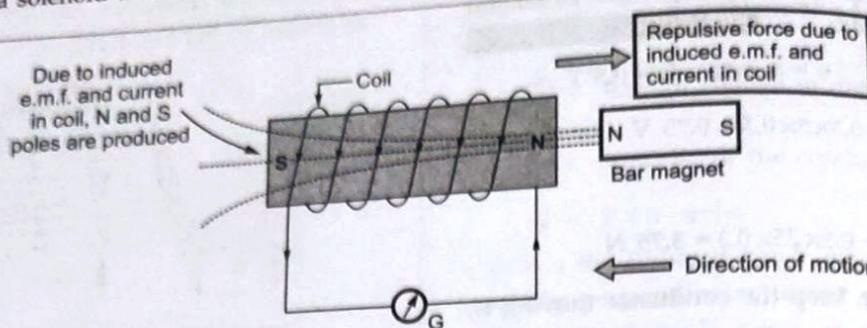

Fig. 1.21.4 (a) Lenz's law
- Consider a solenoid as shown in the Fig. 1.21.4.